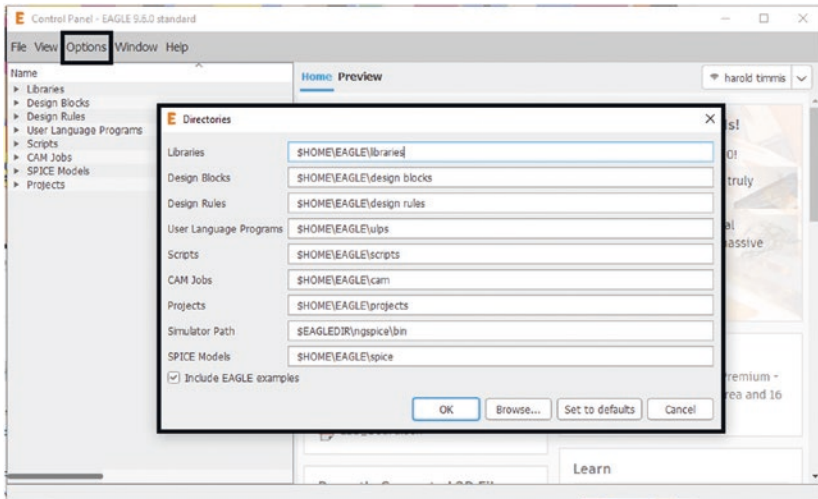

Figure 5-9. *Open Directories*
- 7. Go to Eagle and select Options ► Directories, and the Directories window will appear. See Figure 5-9.